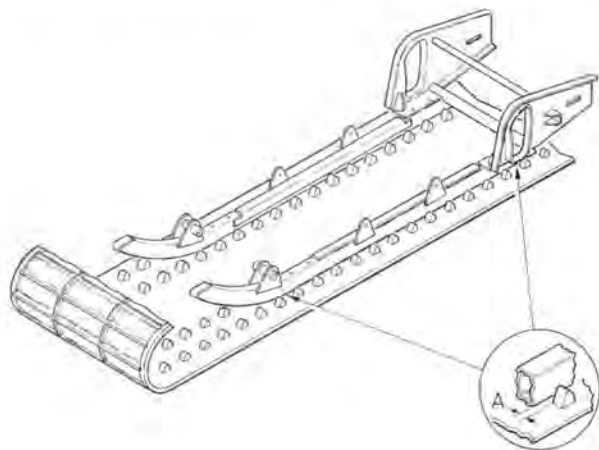

FIG. 11
- With the track turning, visually check, on one side, the distance between the drive cogs and the side of suspension rail (ref. A fig. 11). The distance should be equal at the front and at the rear (see illustration 11).